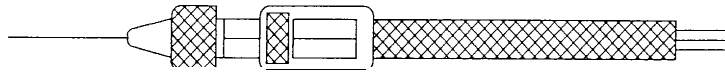

Figure 6
- a. The only measuring tool considered acceptable for performing this evaluation is an 0.018 inch calibrated plug gauge. (Sometimes called a wire gauge.) The plug gauge is to be mounted in a gauge holder (Figure 6) weighing 1 to 1.5 ounce and projecting at Least one inch out of the end.